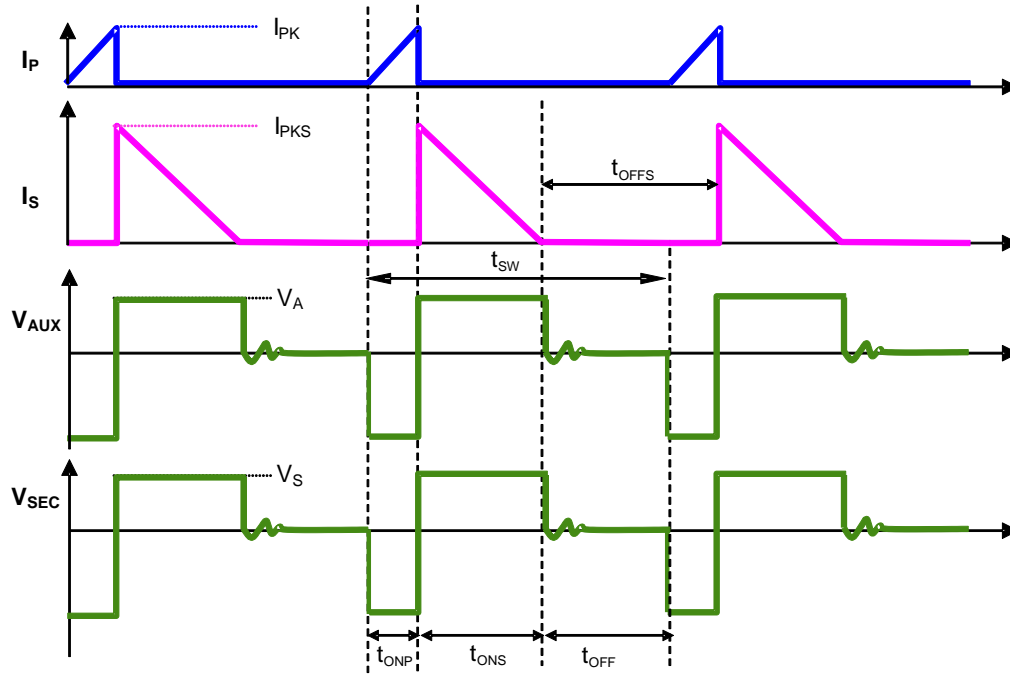

Figure 2. The Operation Waveform of Flyback PSR System
Figure 2 shows the typical waveforms which demonstrate the basic operating principle of AP3783 application. And the parameters are defined as following.
As illustrated in Figure 2, when the current $i_p(t)$ rises up to I_{PK} , the switch Q1 turns off. The constant peak current is given by:
The AP3783 can work in constant-current (CC) mode. Figure 2 shows the secondary current waveforms.